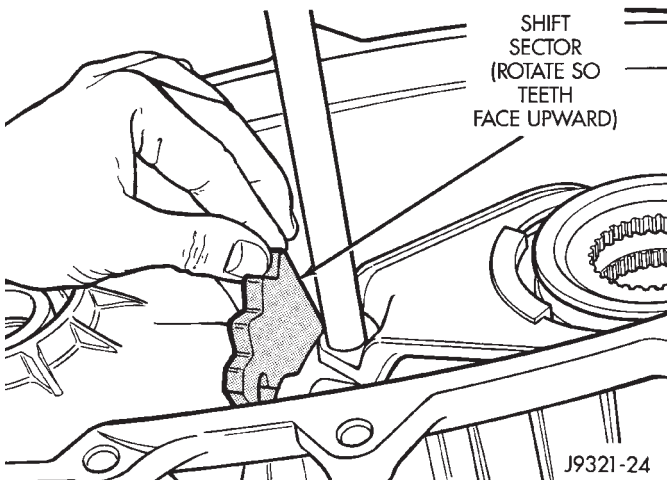

Fig. 24 Rotating Shift Sector
(24) Rotate shift sector so sector teeth face upward (Fig. 24).